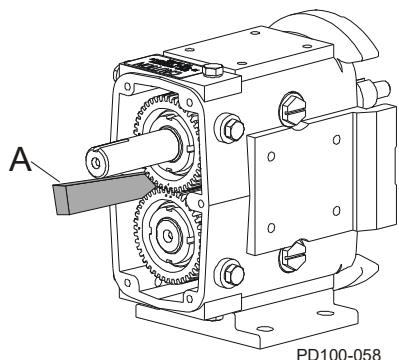

Figure 36 - Block Shaft Rotation
1. Prevent the shafts from turning by placing a wedge between the gears (Figure 36, item A). Use a spanner wrench or drift punch to remove the gear lock nut. The gears will be removed later.